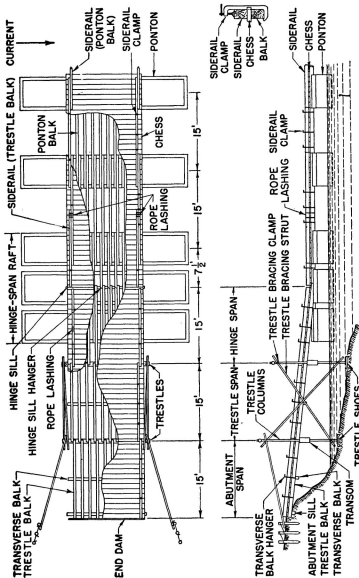

FIGURE 119.—Ponton bridge, 25-ton, showing names of parts.
c. The *heavy ponton bridge* M1940, 25-ton (see figs. 119 and 120), is similar to the light ponton bridge but is much heavier and will carry 25 tons with normal construction. It can be reinforced to carry 35 tons.